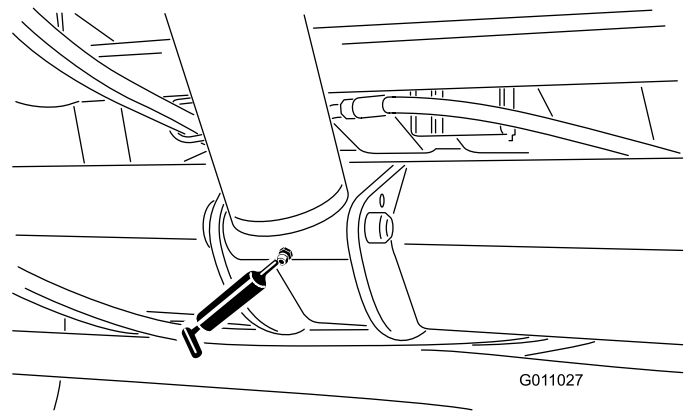

Figure 34
- Lift cylinder (2) (Figure 34).